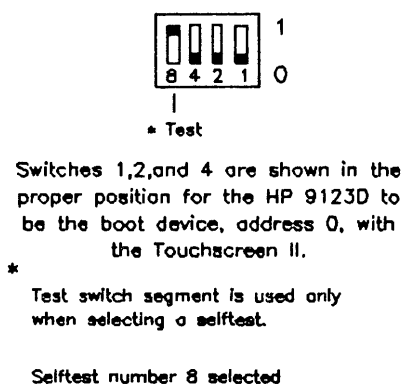

Figure 4-2. HP-IB/Selftest Select Switch.
4. Set the HP-IB ADDRESS switch to the desired test number (see Figure 4-2).